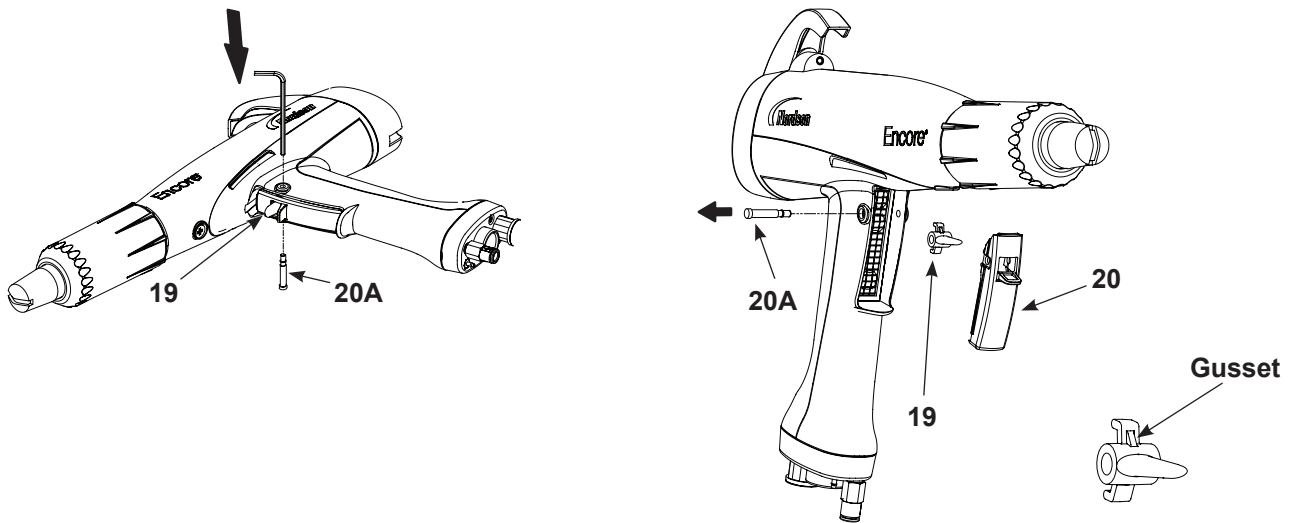

Figure 17 Removing the Axle and Trigger from Handle
3. See Figure 17. Place the spray gun on a solid surface so the small diameter end of the trigger axle (20A) is oriented upward.
5. Remove the spray trigger (20), actuator, and purge trigger (19) from the handle.